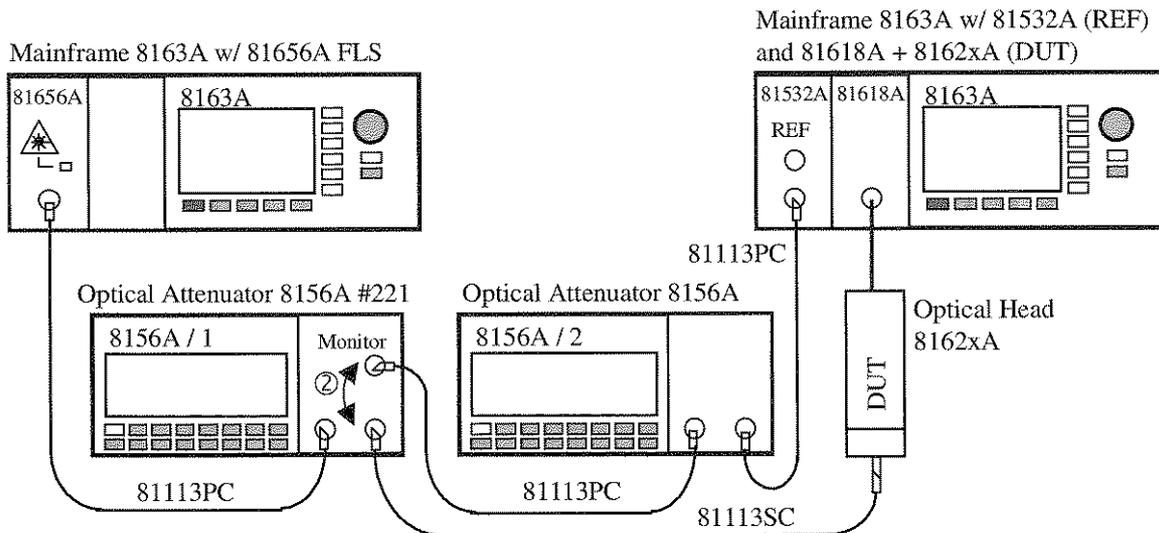

Figure 4 Measurement Setup for Power Linearity
- 3 Setup the equipment as shown in Figure 4. Disable both attenuators and enable the laser source, where the source wavelength is chosen to 1550 nm. If you are using the 81657A, move to the wavelength parameter, $[\lambda]$, press *Enter*, select the longer wavelength source (1550 nm nominally), and press *Enter*.